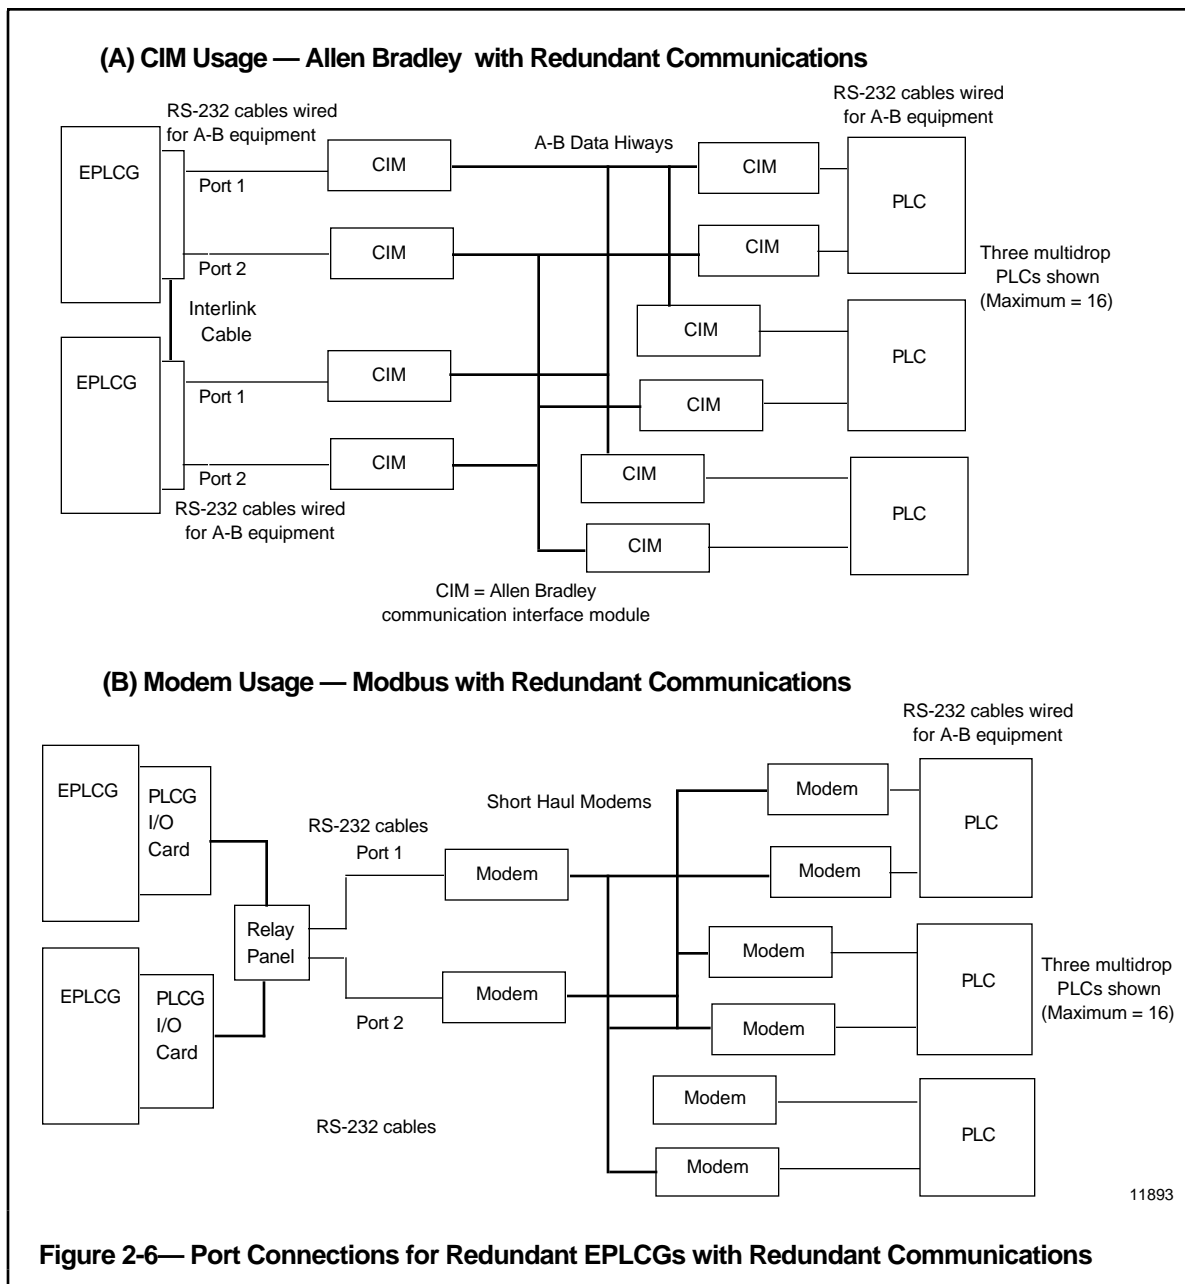

Figure 2-6 (B) illustrates use of the PLCG I/O card and relay panel with Honeywell or Modbus protocol and redundant communications.
Figure 2-6 illustrates typical port connections for redundant EPLCGs for use with the redundant communications feature. In (A), redundant communications are specifically for use with Allen-Bradley PLCs, connected by Allen-Bradley Communication Interface Modules, and provide network cable redundancy.